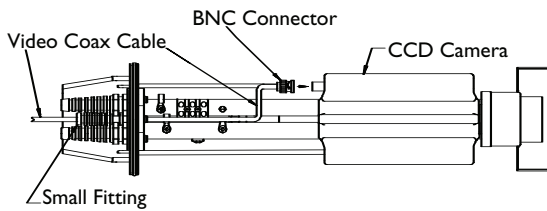

FIGURE 12 Video Coax Connection
1. Install the long flexible portion of the small liquid-tight fitting on the video coax cable and pull the cable through the small fitting on the rear end of the base assembly. The fitting will accept cables with diameters from 4.6mm (0.181in.) to 7.9mm (0.312in.). See FIGURE 12.
1. Install the long flexible portion of a large liquid-tight fitting on the video coax cable and pull the cable through the large right fitting on the rear end of the base assembly. Refer to FIGURES 12 and 13.